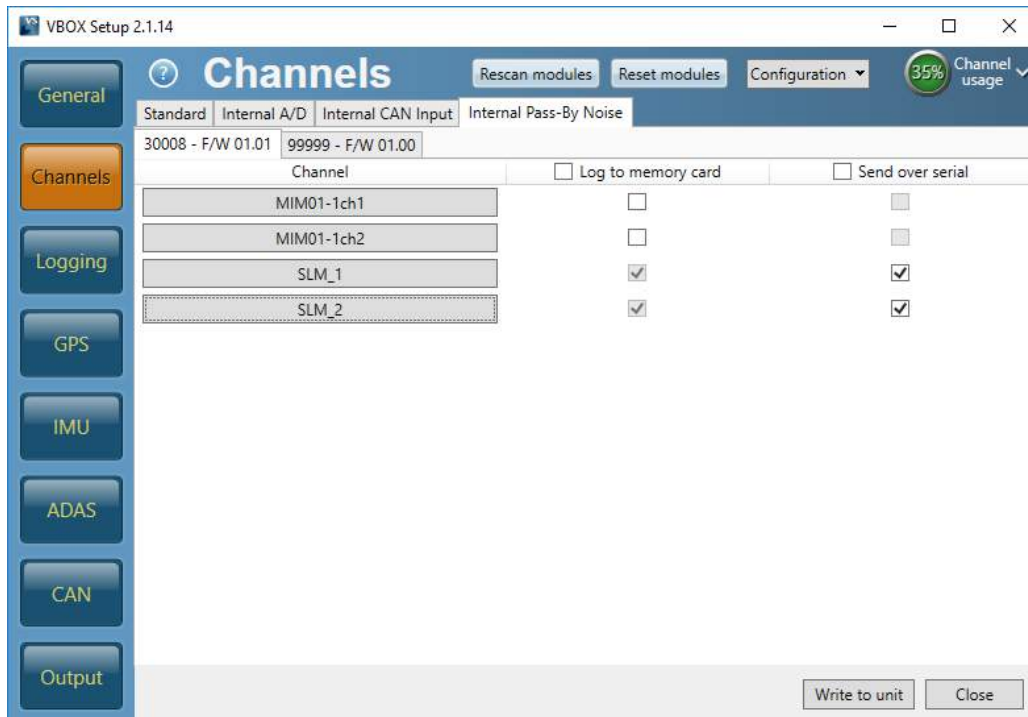

Figure 5 - SLM channel setup in the VB3i using VBOX setup
1. When the laptop has made a connection to the VBOX 3i using VBOX Setup. Click on '**Channels**' and then '**Internal Pass-By Noise**' and the first tab as shown in Figure 5.